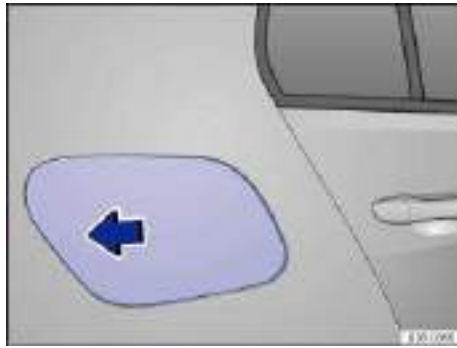

Fig. 163 Right rear side of the vehicle: Opening the fuel filler flap.
- Press on the back part of the fuel filler flap and fold open ⇒ fig. 163 (arrow).